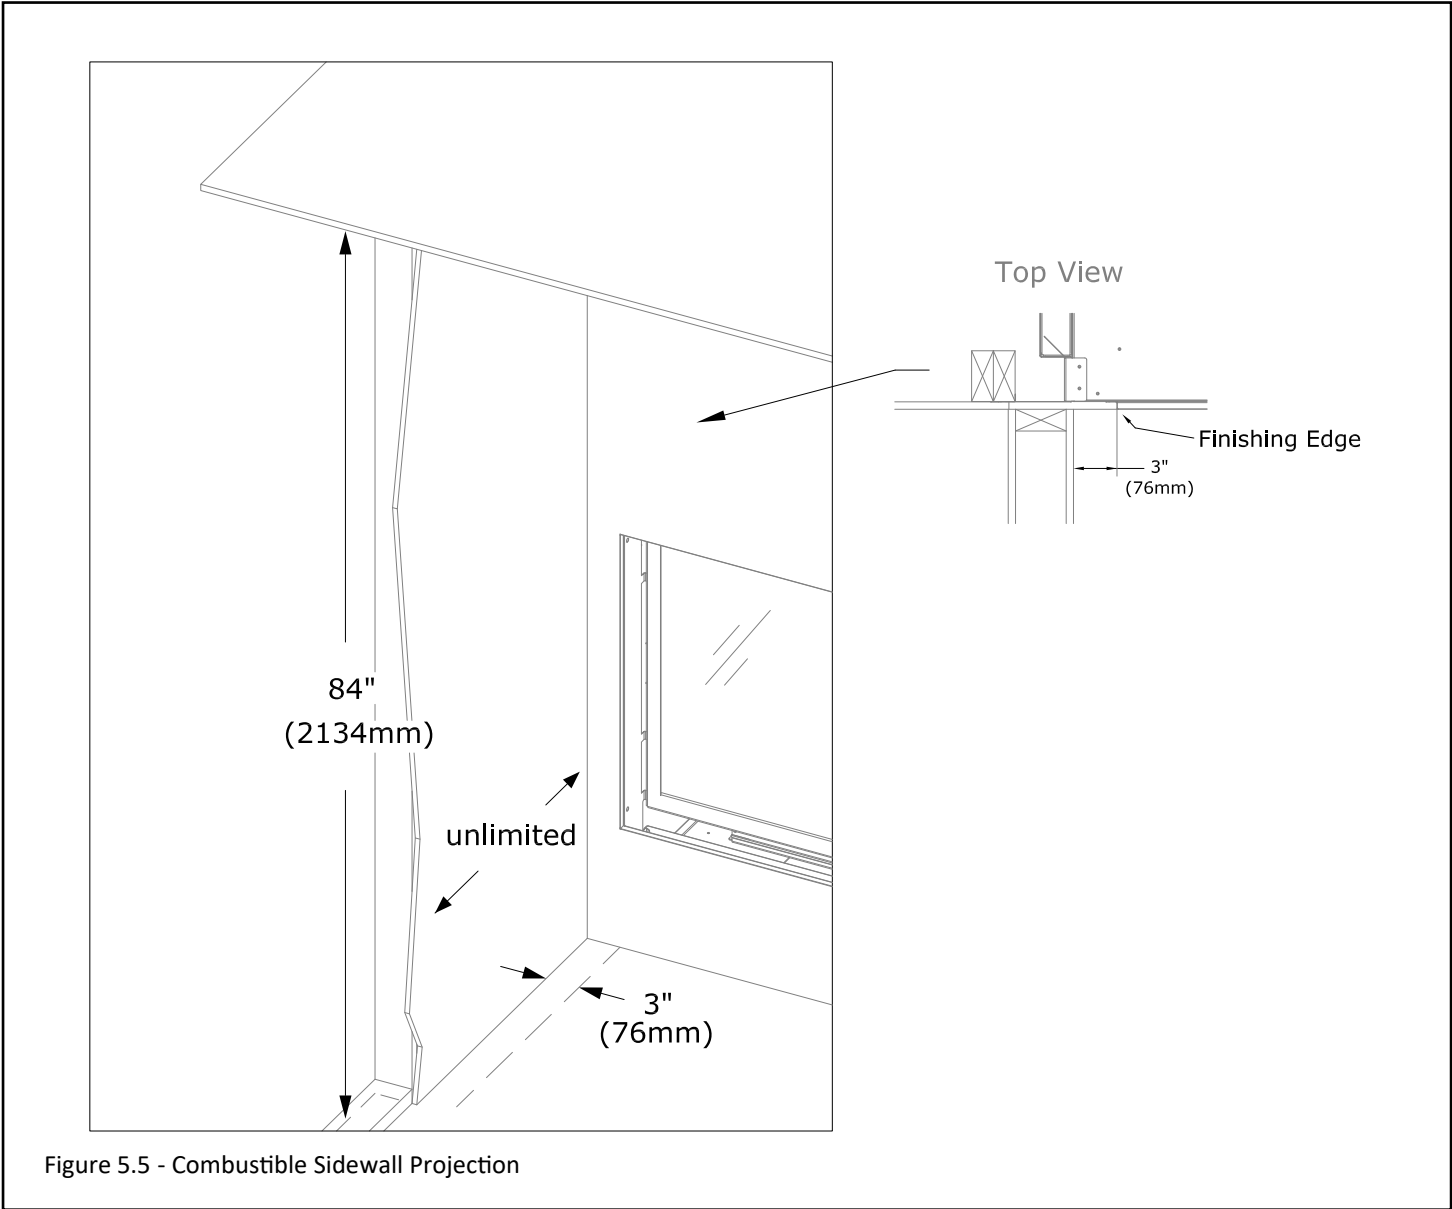

Figure 5.5 - Combustible Sidewall Projection
- **Mantel Leg:** Follow "Side Combustible Clearance" below. See FIGURE 5.5.
- **Combustible Sidewall Clearance:** the adjacent sidewall projection is unlimited and starts at 3" (76mm) from the side of the fireplace. See FIGURE 5.5.
Figure 5.5 shows a combustible sidewall allowed to start at 3" (76mm) away from the side finishing edge of the fireplace. The combustible sidewall is allowed to be unlimited.